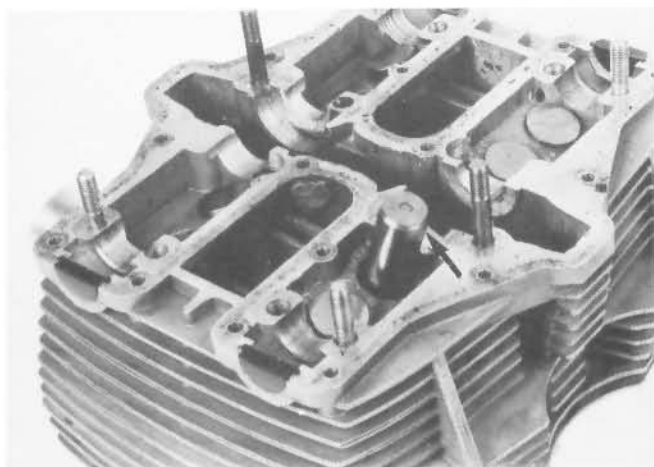

Fig. 53
Per il montaggio dei gommini di tenuta sulle guidavalvole vi è un apposito attrezzo (Fig. 53). Curare che ogni particolare ritorni al posto originale.
- 3) Valves, springs, spring collars and split cotters should be fitted using the same tools and performing in reverse order the operations already described in the disassembly section. There is a special tool for fitting the valve stem oil seals on the valve guides (Fig. 53). Take care that every part is fitted in its original position.